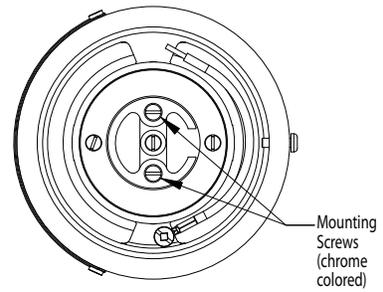

Figure 8 - Connection Block Installation
6. Insert connection block into mounting module, and install the two mounting screws. See Figure 8.